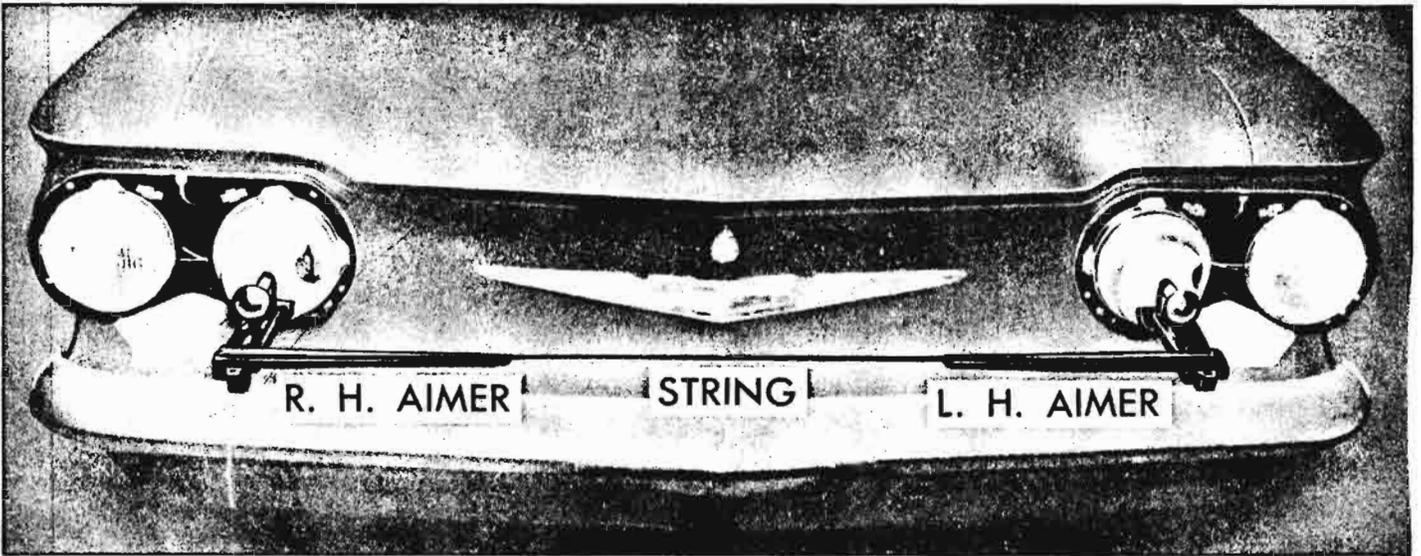

Fig. 8-100—Aimers and String Installed on No. 1 Headlamp Units
5. With both aimers in place on the same pair of headlamp units, knot both ends of the elastic string and fasten, using slots provided, from the left to the right aimer across the top of the horizontal crossarms (fig. 8-100).